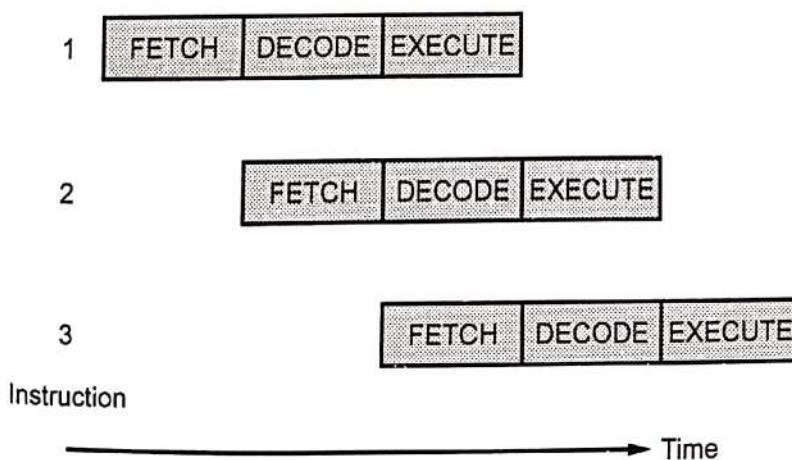

Fig. 2.5.4 Three stage pipeline in ARM7
- Fig 2.5.4 shows three stage pipeline of ARM7 processor.